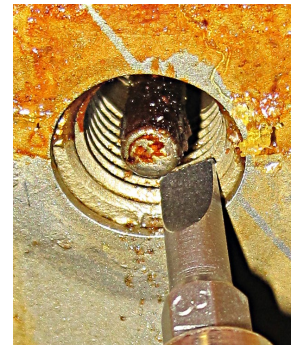

Figure 1
2. Use a screwdriver or other similar object which allows access around the probe (see Figure 1). Use caution to ensure that the probe is not damaged.